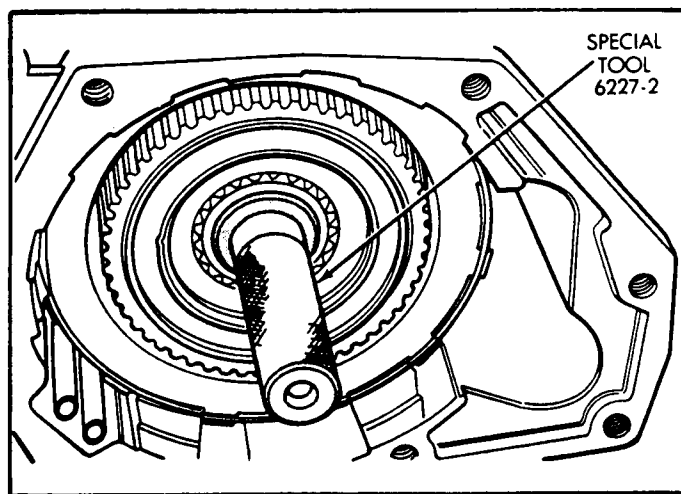

Figure 5
10. If overdrive unit does not require any service, install alignment tool 6227-2 in overrunning clutch and the planetary splines to maintain alignment, shown in Figure 5.